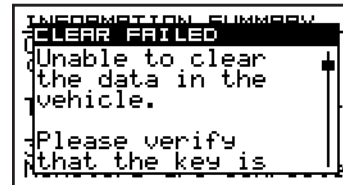

Fig. 20
4. Once the codes are cleared, you will be taken back to the initial screen with the cable image. The Clear Failed screen (Fig. 20) is displayed if the tool was unable to clear the codes.